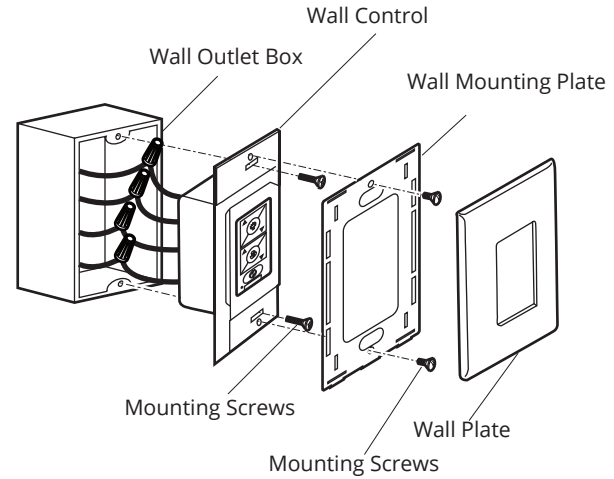

FIGURE 15
1. Carefully tuck the wire connections inside the junction box. Secure the wall control with the two wall control mounting screws provided (Fig. 15).